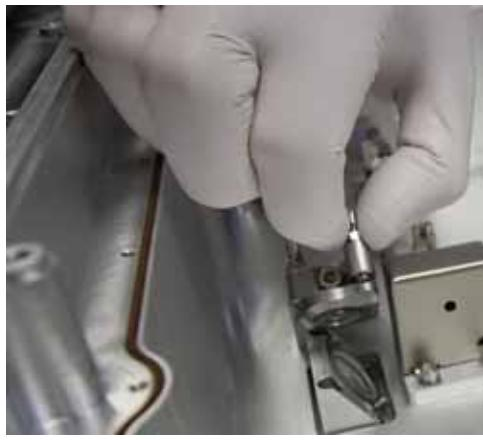

Figure 4.8-9. Verify Tightness of Fold Mirror Screws
11. Check that the screws on the Fold Mirrors (Polaris mounts) are tight using the 1/4" wrench. Do not overly torque them, only tighten them if they have come loose (Figure 4.8-9).